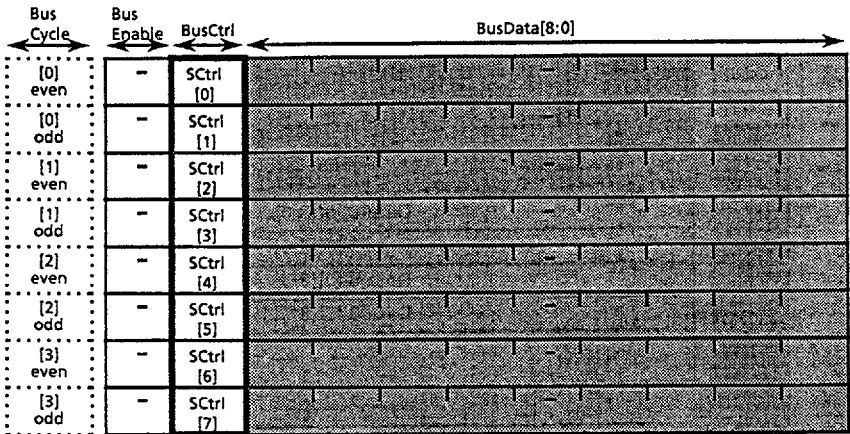

Figure 7. Serial Control Packet Format
- (6) Serial Control Packet
- The serial control packet provides for the early termination of a memory space read or write transaction. It consists of eight bits transferred serially on the BusCtrl pin of the device. The commands which use this packet are all of those which access memory space. The register read and write commands do not use the serial control packet. Figure 7 shows the format of the serial control packet.